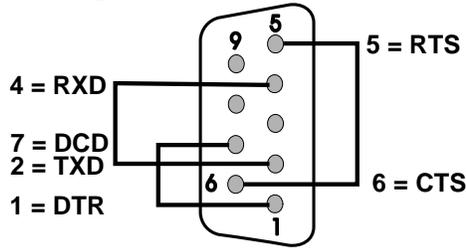

Figure 22 - RS-232 Loop-back Plug/Wires
Ports 1 through 10 - RS-232: use a 9-pin male D-type loop-back plug or loop-back wires (see Fig. 22).
1. Connect an external loop-back plug or loop-back wires to the Communication Port to be tested (see Figures 22 and 23). For RS-485 Loopback testing, CPU Switch SW3 and/or SW4 can be configured for loopback operation (see Table 4).